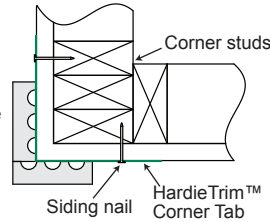

Figure 5
- For wood frame construction, attach trim to building using min. 6d siding nails fastened through the HardieTrim Corner Tabs attached to minimum 7/16" OSB* (Figure 5)